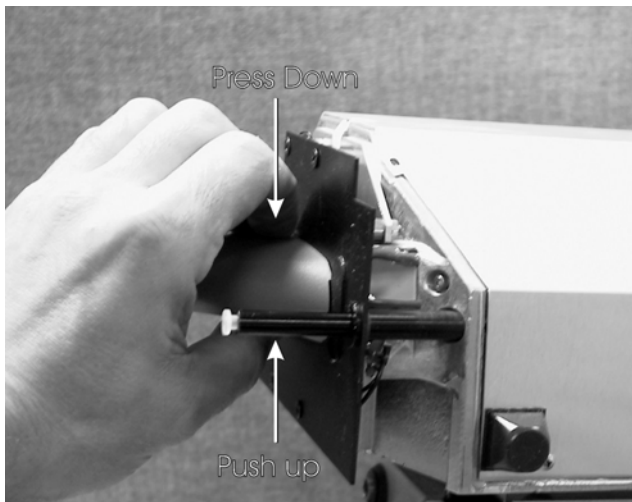

Figure R1-1. Nosepiece Cover Removal
2. Press the top and bottom of the Nosepiece Cover together until the locking tabs release from the Rear Mask. Refer to Figure R1-1 for an illustration of the location of the Rear Mask.